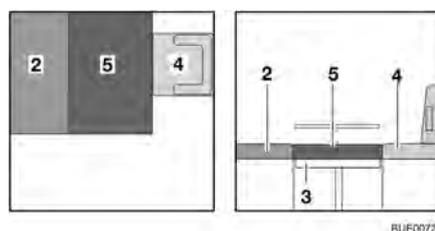

Fig. 107 After conversion
- Place the additional cushion (Fig. 107,5) on the table.
- If required, push the driver's seat (Fig. 107,4) back to the rear.